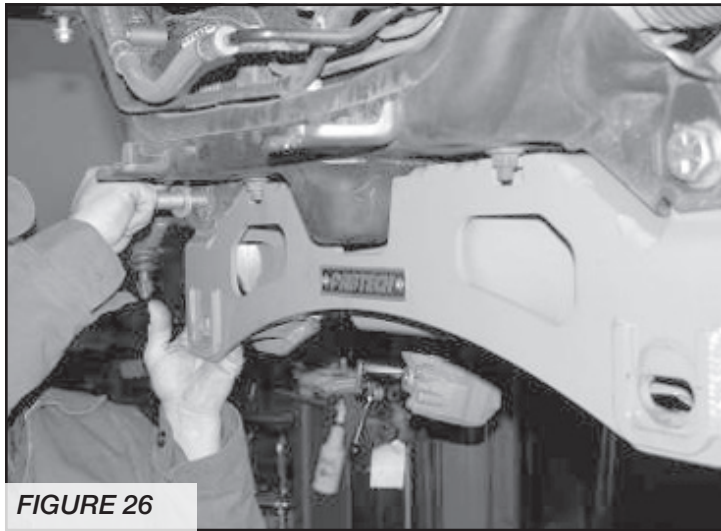

FIGURE 26
19. Locate the Fabtech front crossmember FT70162BK with the supplied $\frac{3}{4}$ " x 4-1/2" bolts, nuts, and washers (BAG 1), attach the crossmember to the factory control arm pockets, leave loose at this time. **SEE FIGURE 26**